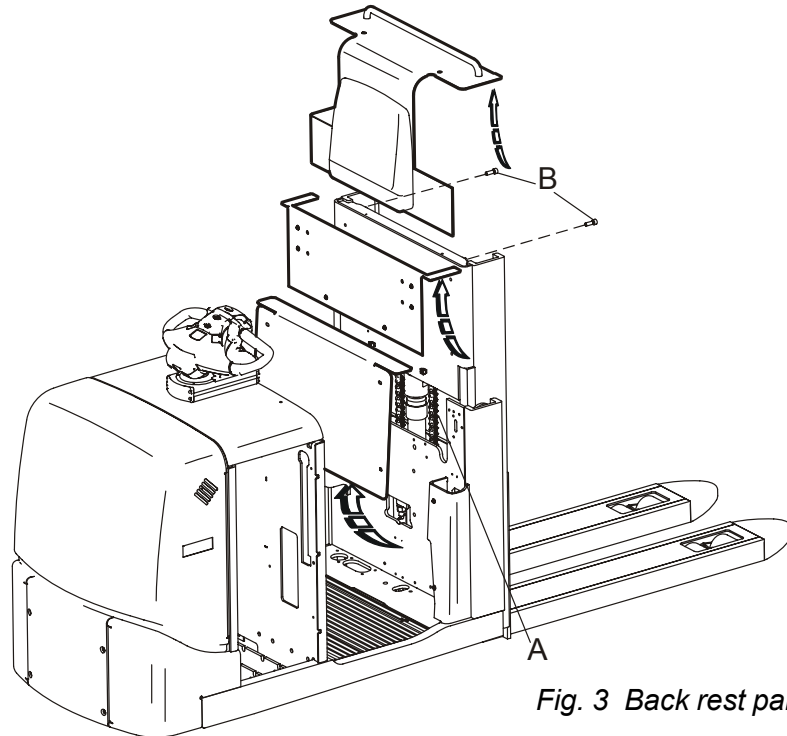

Fig. 3 Back rest parts
- Disassemble the back rest parts according to Fig. 3.
- By lifting the forks approx. 30-40 cm the chain mounts can be accessed from the operator side of the mast. Fig. 3 (A)
- Unscrew the stop screws Fig. 3 (B)